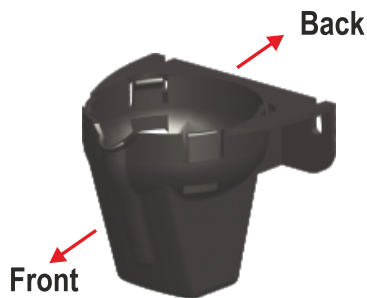

Fig 5: Holding Bracket Orientation
Afterwards ensure that the switch plug is fitted in the switch housing (Fig 1) and turn the switch in "OFF" position again. Fit the light into the bracket with the switch side to the back and the lanyard to the front (Fig 5).
5. Fit the light into the bracket with the switch side to the back and the lanyard to the front (Fig 5).